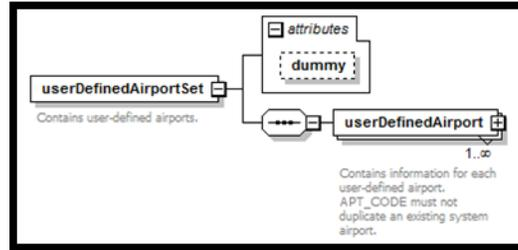

Figure 69. ASIF element – userDefinedAirportSet
10. `AsifXml/study/userDefinedAirportSet/userDefinedAirport` (Figure 69):